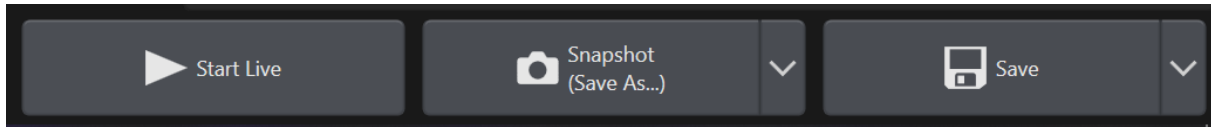

Figure 10. Capturing and Saving Image
14. Once all adjustments are complete, capture the image by selecting "Snapshot" and saving it in the software, as shown in Figure 10. Click "Start Live" to return to observation mode.